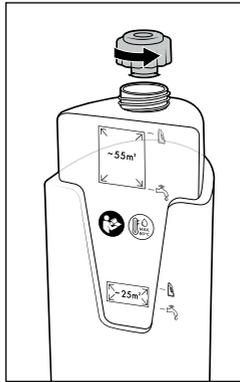

Fig. 7
- ◆ Flip the fresh water tank **11** over and unscrew the lid. (see fig. 7).